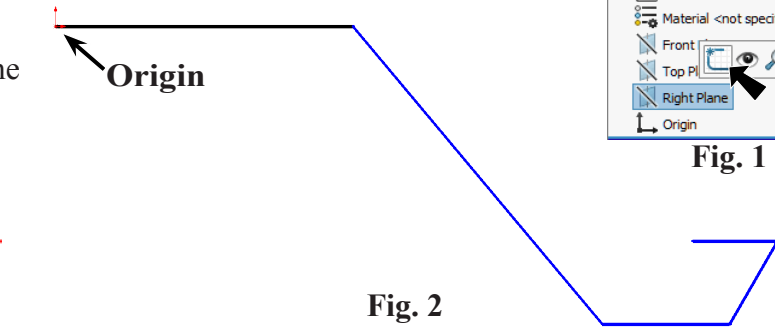

Fig. 2
Step 3. Click **Line** (L) on the Sketch toolbar.
Step 4. Starting at the Origin sketch the 5 lines, **Fig. 2**.